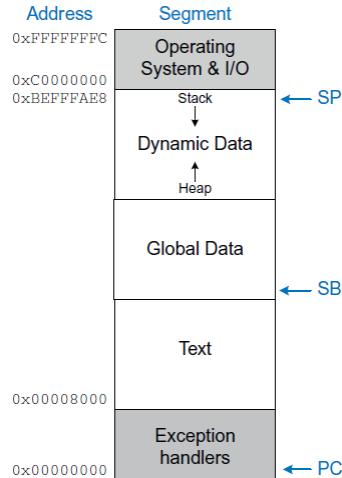

Figure 6.28 Example ARM memory map
With 32-bit addresses, the ARM address space spans 2^{32} bytes (4 GB). **Word** addresses are multiples of 4 and range from 0 to 0xFFFFFFFF. Figure 6.28 shows an example **memory map**. The ARM architecture divides the address space into **five** parts or segments: the text segment, global data segment, dynamic data segment, and segments for exception handlers, the operating system (OS) and input/output (I/O).